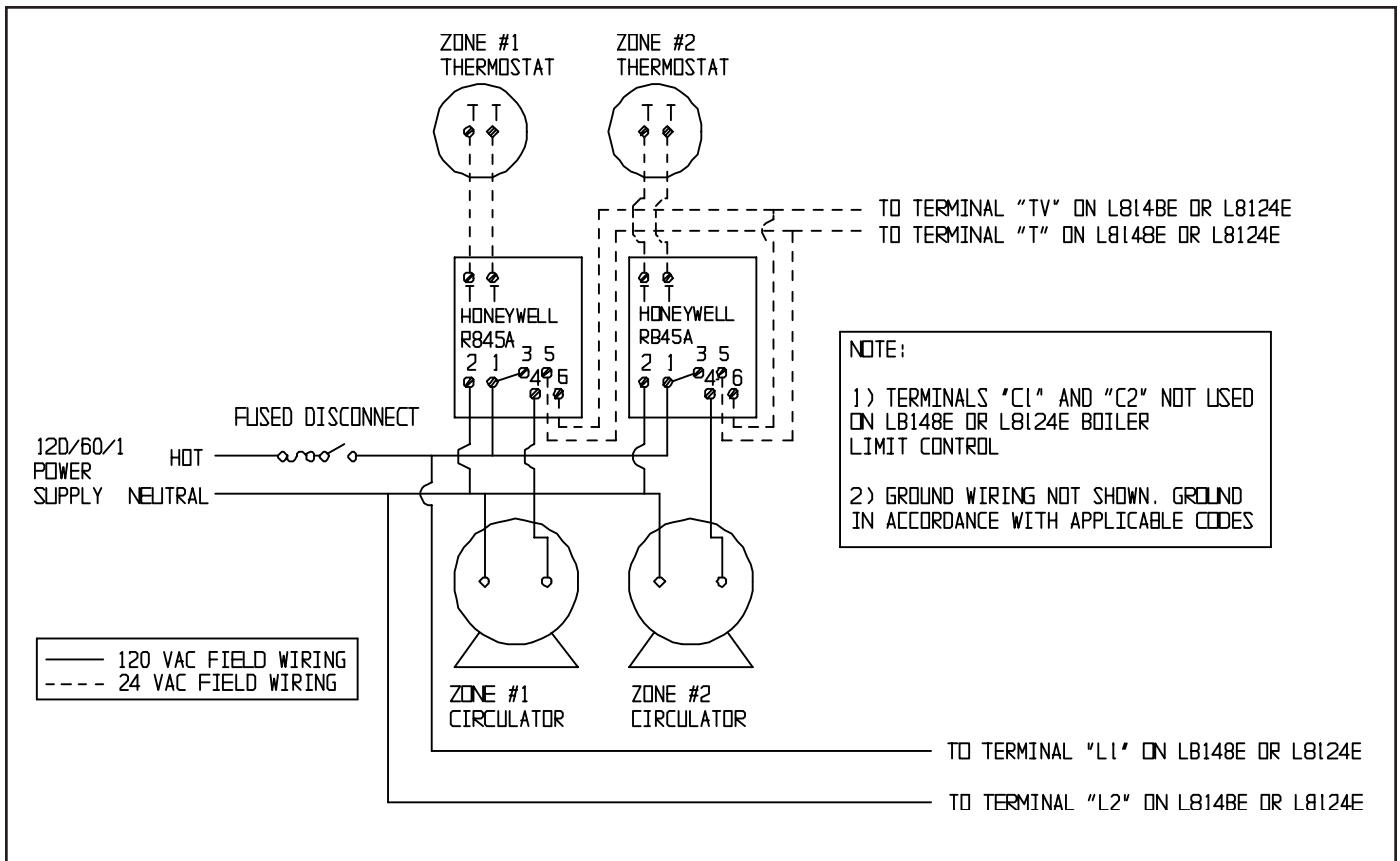

FIGURE 22: CIRCULATOR ZONE WIRING USING HONEYWELL R845As
- 1) Multiple Circulator Zones – Figure 22 shows wiring for two or more circulator zones using Honeywell R845As. One R845A is required for each circulator zone. Circulator terminals “C1” and “C2” on the limit control are not used. A DPST Honeywell RA832A may be substituted in place of the R845A using the “X” and “X” terminals in place of the “5” and “6” terminals on a R845A.